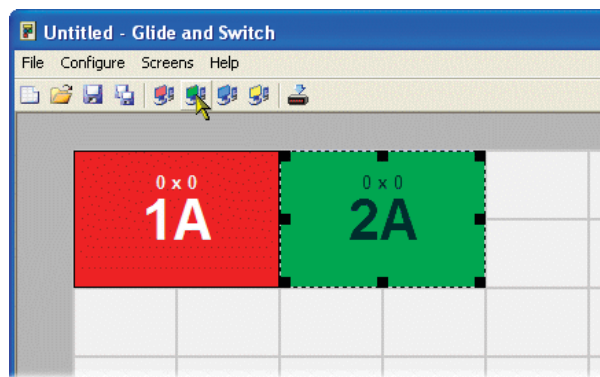

Figure 4-1. Adding display screens to the layout
1. On the icon bar, click the red, green, blue and yellow screen icons (or use the **Screens** menu) to add the required number of display screens to the map area. See Figure 4-1.